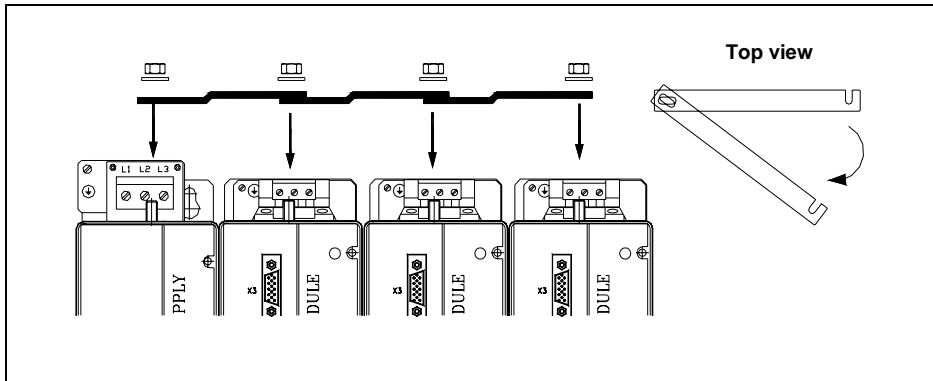

fig. 5 Joining the chassis between modules
3. **Rotate** the plates of the affected drive module and that of the one to its as shown in fig. 5.